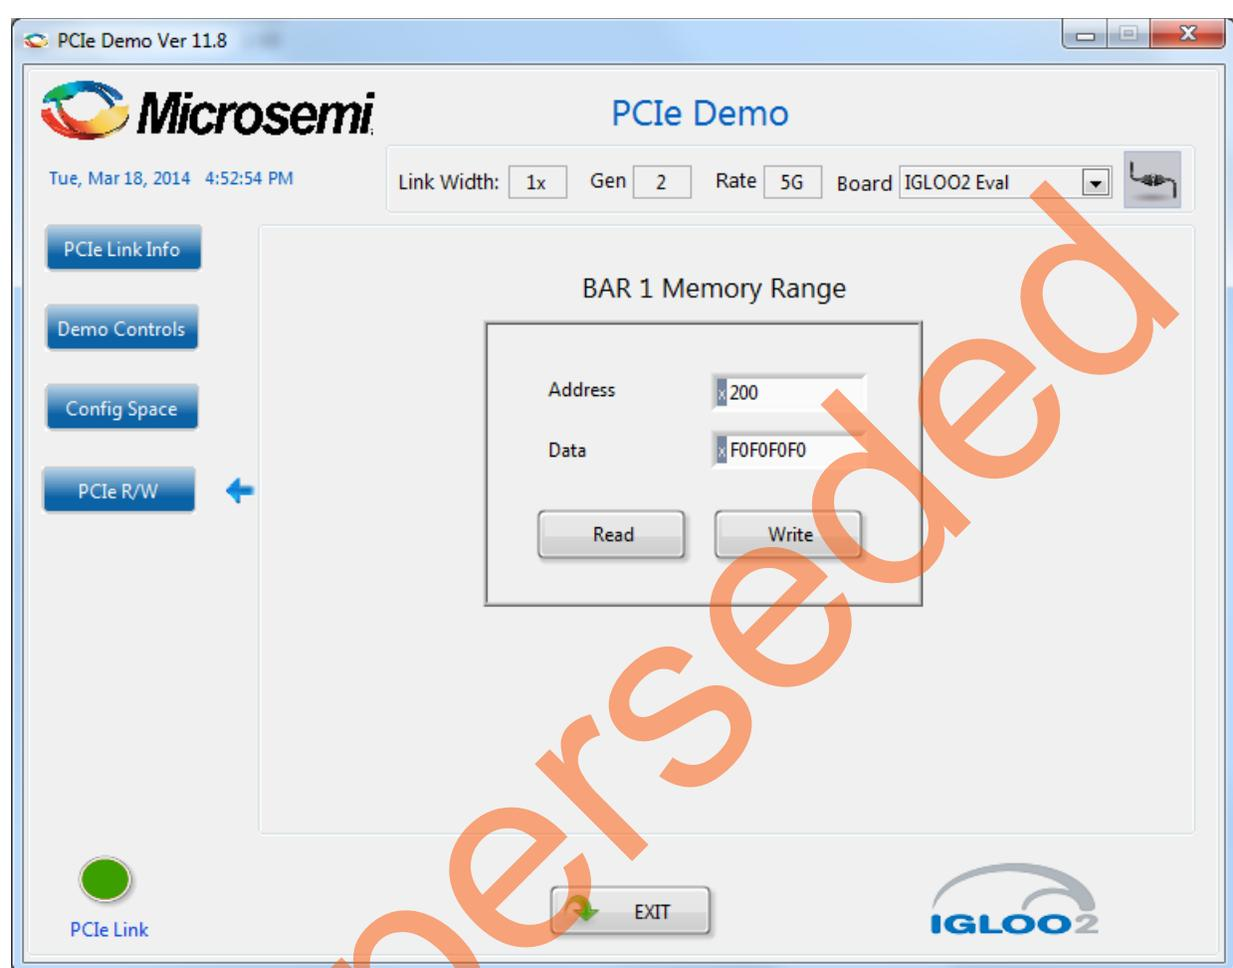

Figure 65 • Perform Read and Write to LSRAM Using PCIe
13. Click **PCIe R/W** to perform read and writes to LSRAM memory through **BAR1** space. Figure 65 shows the **PCIe R/W** window. Enter the address in the **Address** field between **0x0000** to **0x7FFC**. The **Data** field accepts a 32-bit hexadecimal value.